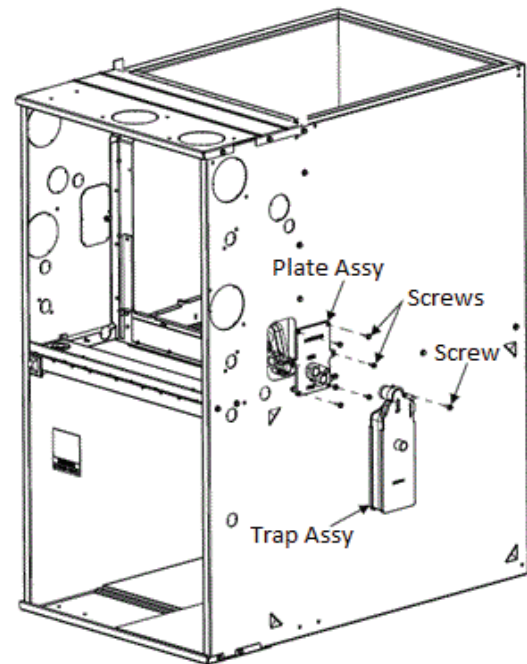

Fig. 15 – Upflow Condensate Drain
2. Screw the adapter plate to the trap adapter using provided machine screw (see Fig. 15).
3. Screw the adapter plate to the side of casing using six (6) of the provided sheet metal screws (see Fig. 15). Drilling pilot holes is recommended to better align the plate with the knockout opening.
4. Screw the trap to the adapter plate using provided machine screw (see Fig. 15).
2. Screw the adapter plate to the side of casing using six (6) of the provided sheet metal screws (see Fig. 15).